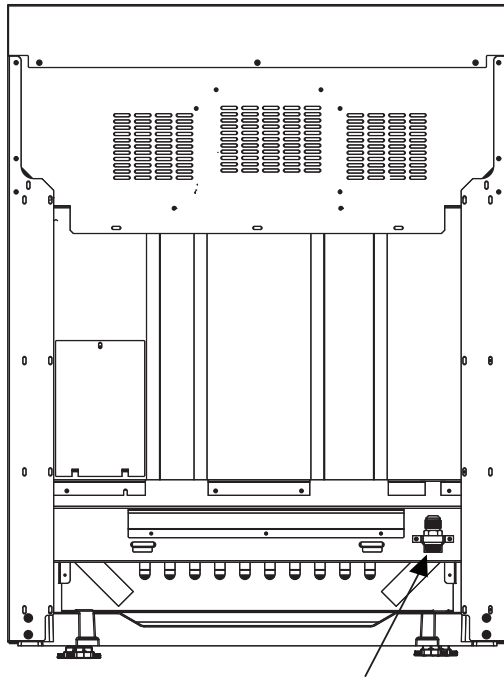
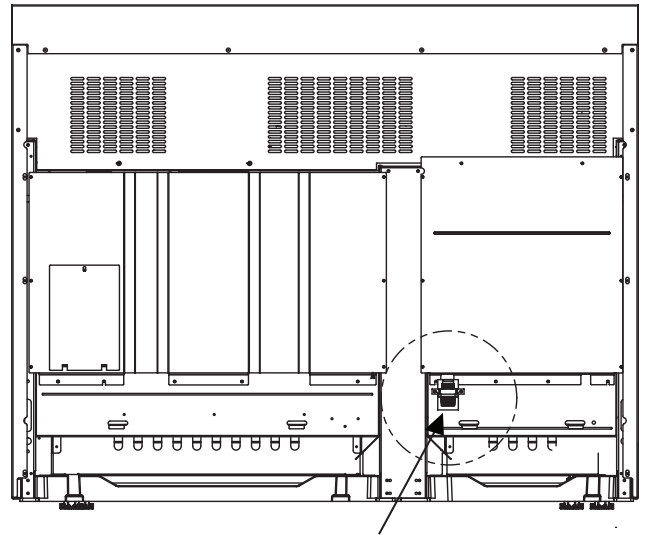

Figure 8: Location of Gas Supply Inlet Connection on 30" and 36" Ranges
Figure 9: Location of Gas Supply Inlet Connection on 48" Ranges
- Use 3/4" flex line to connect between the gas supply and the appliance gas inlet. The gas supply line connection is located at the lower right portion of all range models. (See Figure 8 and Figure 9). The appliance gas inlet connection is 1/2" NPT. Use caution to avoid crimping the 3/4" flex line when making bends. Suggested length of flex line is 48"; however, please check local codes for your area's requirements before installation.